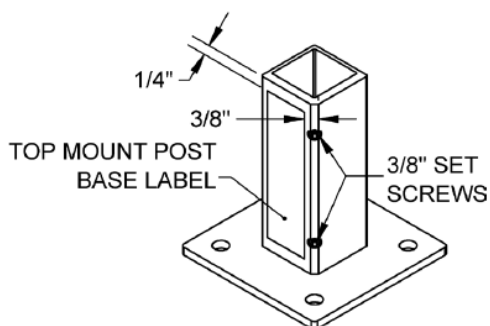

FIG. 4.1
1. Begin installation by affixing the supplied warning label, found in the hardware bag, to the Top Mount Post Base ('post base') as shown in FIG. 4.1.